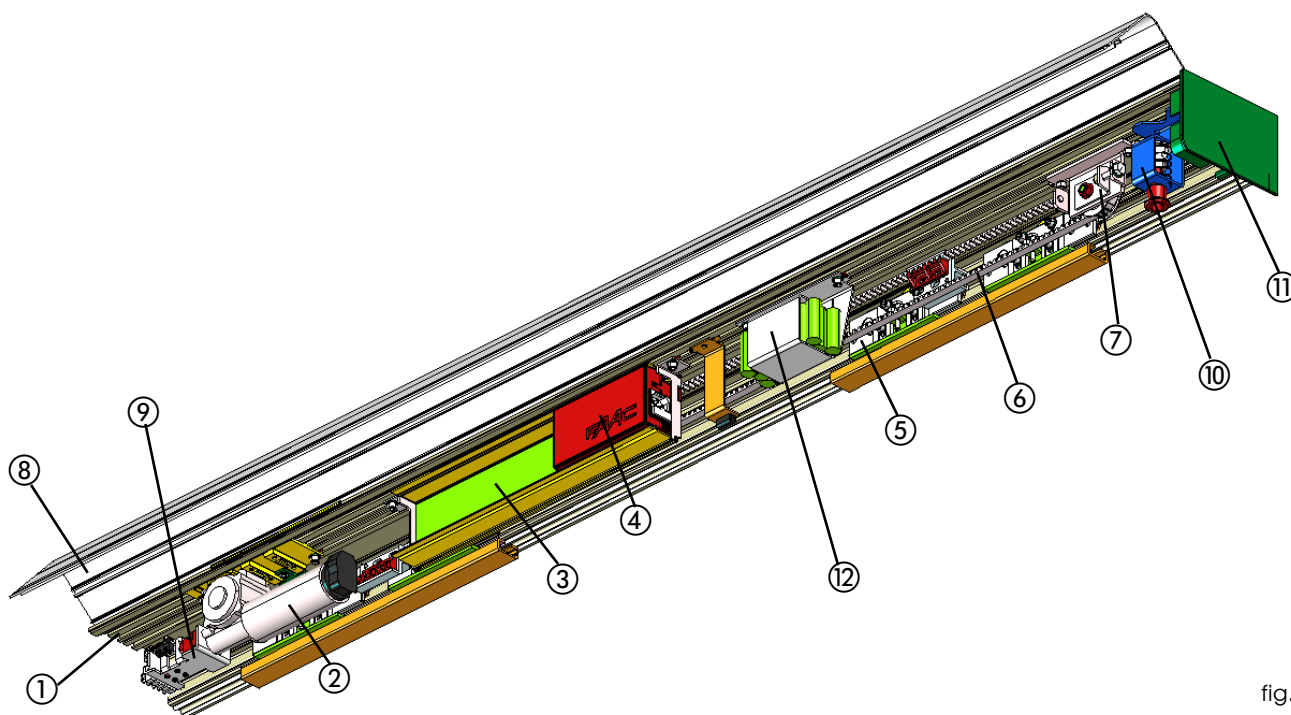

fig. 1
An automation cross beam (fig.1) consists of the following parts:
#### Support profile (fig.1 ref.①)
#### Motor unit (fig. 1 ref.②)
#### Control unit (fig. 1 ref. ③)
#### Power feed unit (fig. 1 ref. ④)
#### Leaf support carriages (fig.1 ref.⑤)
#### Drive belt (fig. 1 ref. ⑥)
#### Transmission pulley unit (fig. 1 ref. ⑦)
#### Closing housings (fig. 1 ref. ⑧)
This is the aluminium profile enabling closure of the automated system. The side panels (fig.1 ref.⑪) completely close the system.
#### Motor lock unit (fig. 1 ref. ⑨)
The motor lock unit is supplied with the internal release device (Fig.1 ref.⑩) used for emergency opening if needed. It is also designed for installation of the external release (optional) if required. The motor lock unit acts directly on the motor, locking it mechanically.
#### Emergency battery (fig. 1 ref. ⑫)